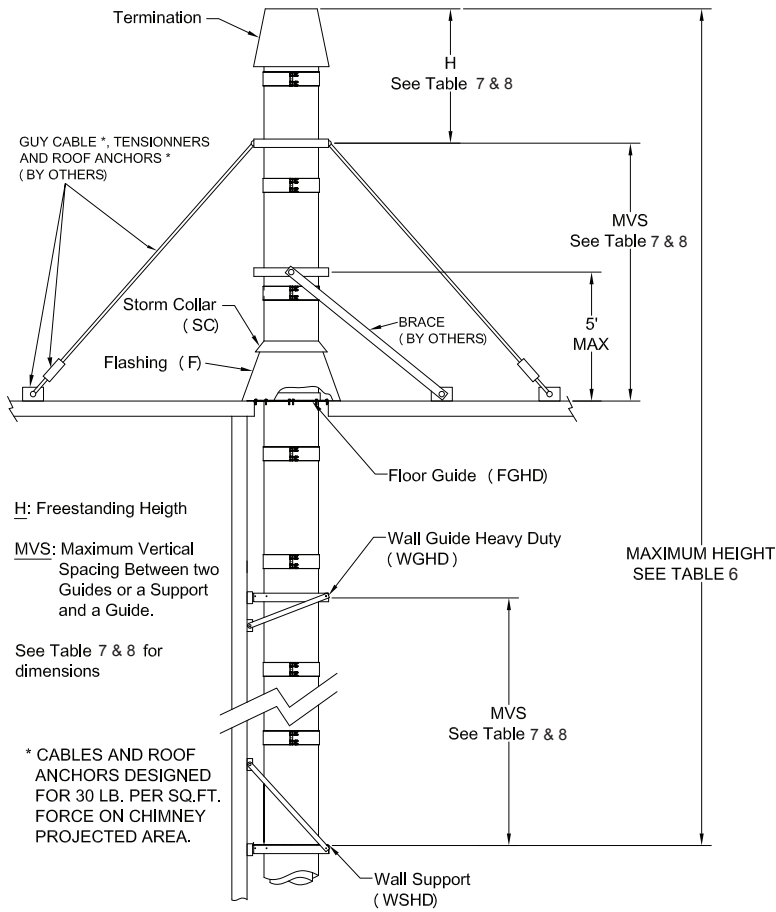

Figure 27 - Height with rigid bracing or guying option for LDCS & LDCD
• If Dimension "H" exceeds the value in the Table 7 & 8, use bracing or cable guying to stabilize chimney section above the roof. See Figure 27